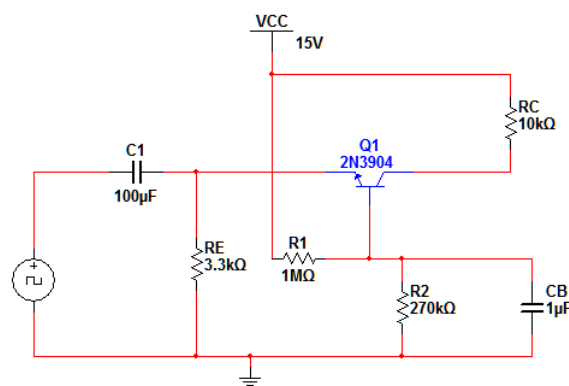

Figure 2: Common Base Amplifier
1. Utilizing the kit, make the connections according to Figure 2 without using the Bypass circuit that is capacitor C_2 should remains unconnected.